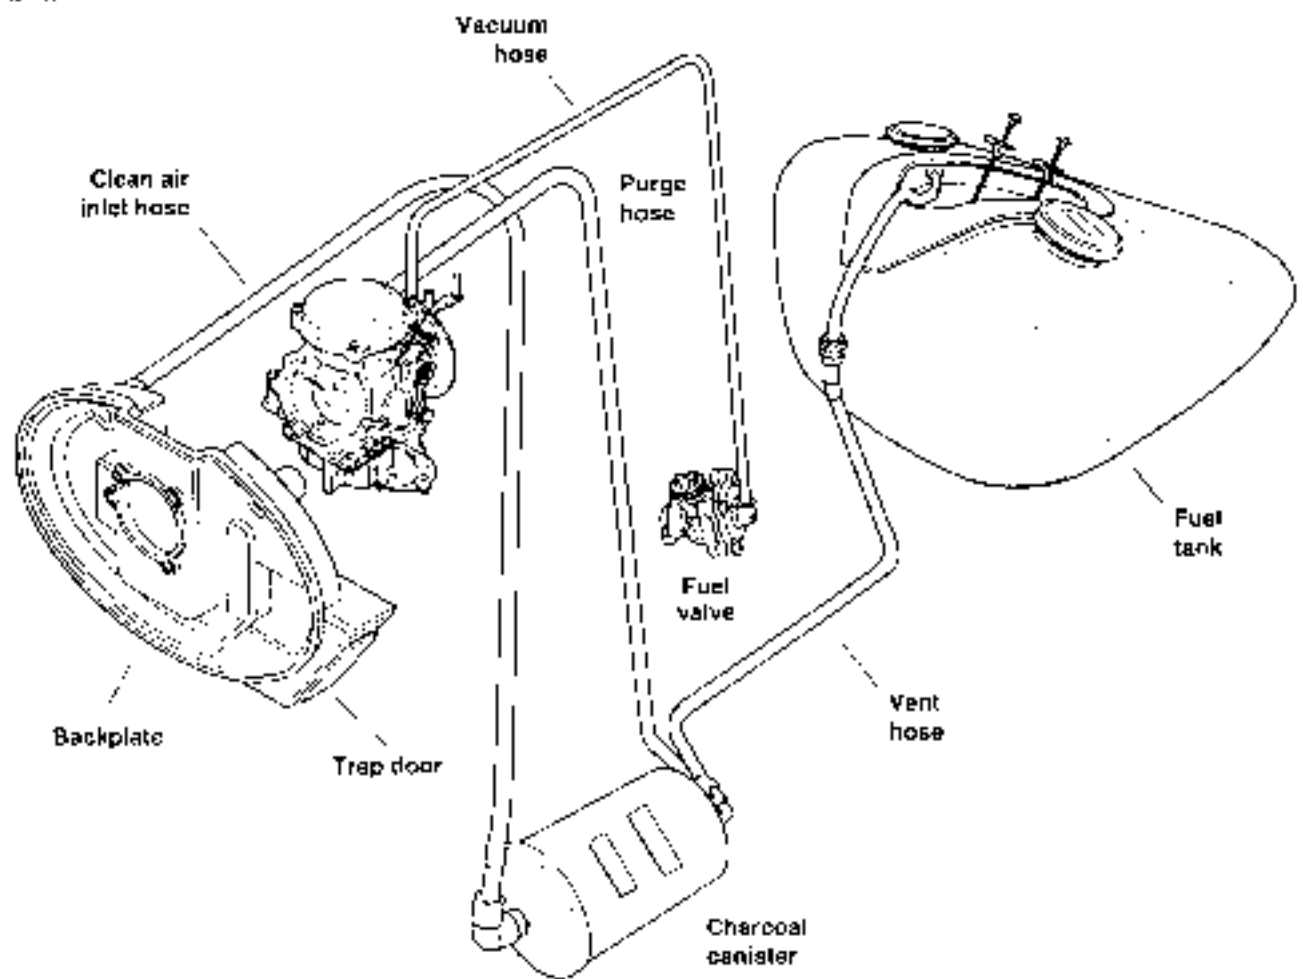

Figure 4-17. Schematic-CA Evaporative Emissions Control System
- a. See Figure 4-17. Attach the large (0.5 in./12.7 mm ID), preformed, clean air inlet hose to the backplate fitting.
- a. See Figure 4-17. Attach the preformed purge hose to the canister purge fitting.